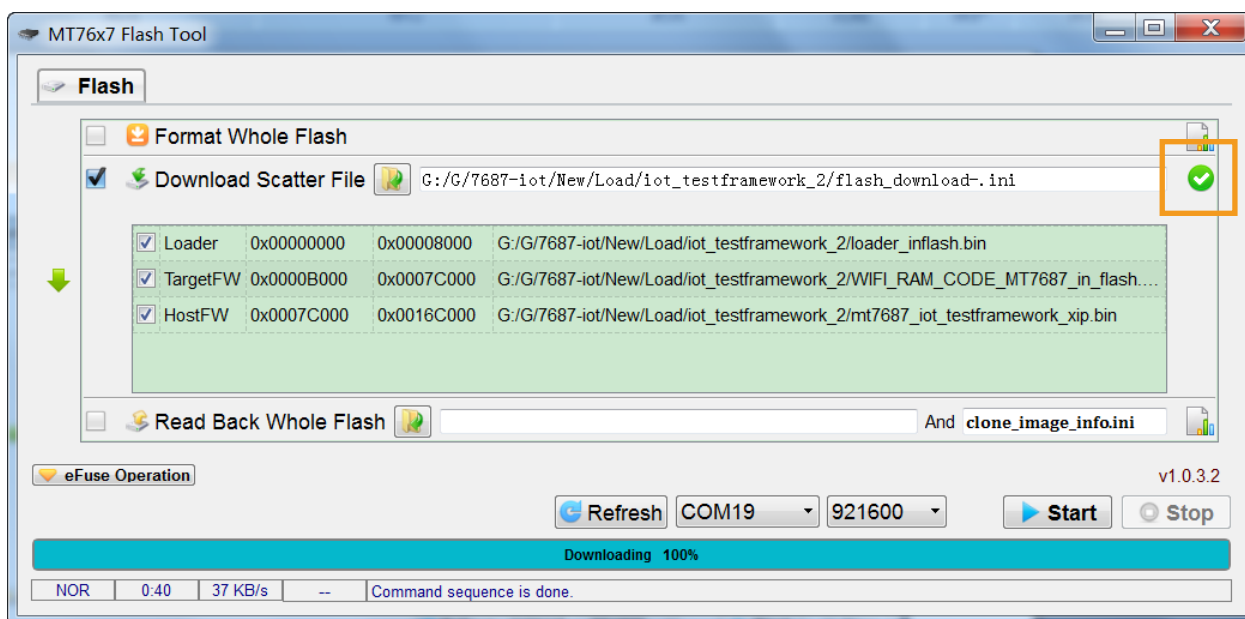

Figure 6. Downloading the image is successfully complete
- 3) Click **Start** to execute the command. When downloading is complete, the result status is shown in Figure 6.